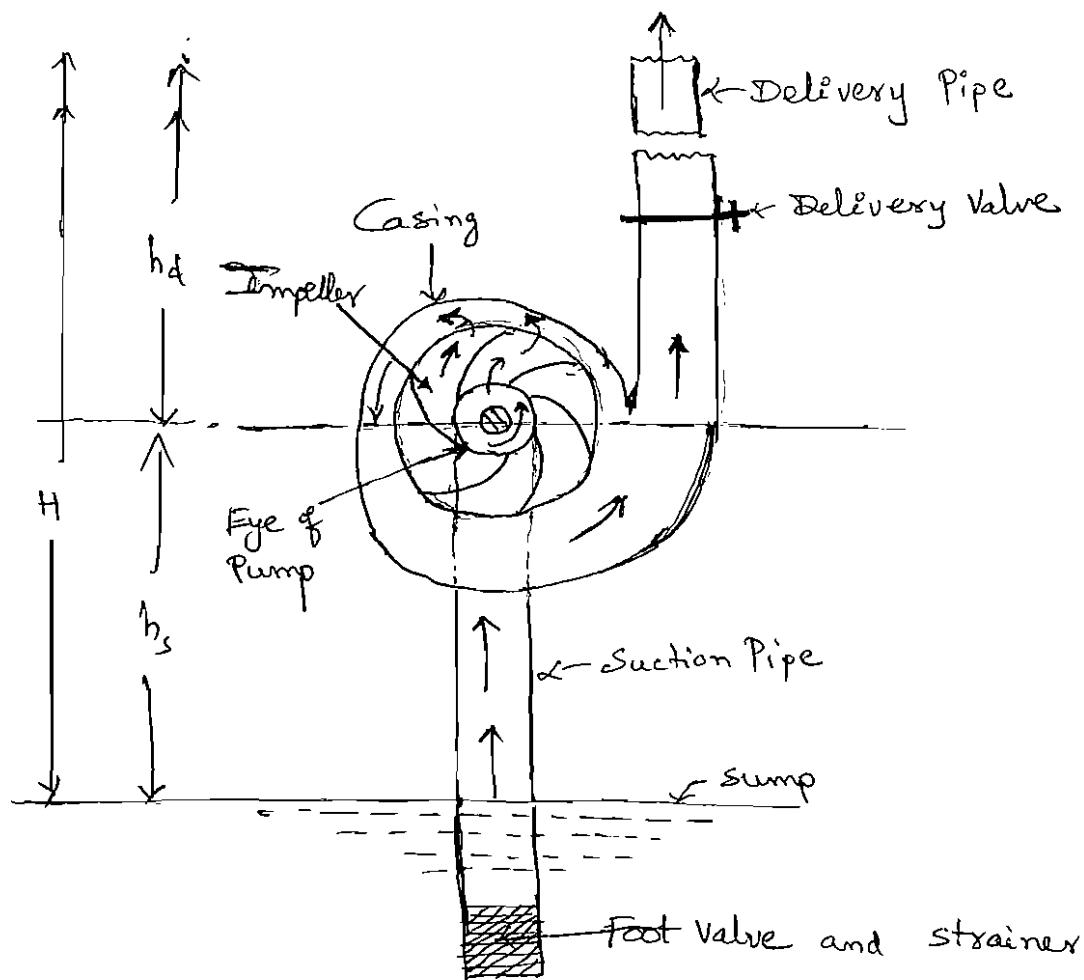

Fig1: Main Parts of a Centrifugal Pump
(a) Volute Casing as shown in fig. 1
② Volute Casing: Fig. 1 shows the volute casing, which surrounds the impeller. It is of spiral type in which